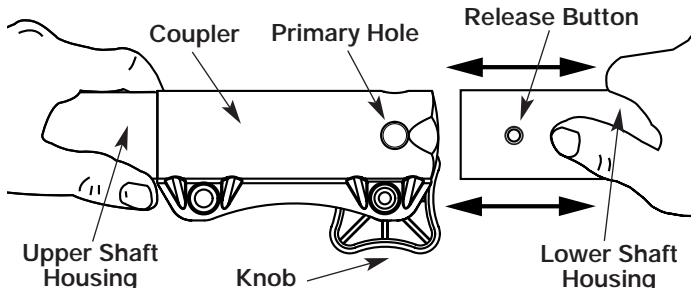

Fig. 6
**CAUTION:** Lock the release button in the primary hole (Fig. 6) and securely tighten the knob before operating this unit.
- While firmly holding the upper shaft housing, pull the blower/vacuum add-on out of the coupler (Fig. 6).
- While firmly holding the add-on, push it straight into the coupler (Fig. 6).